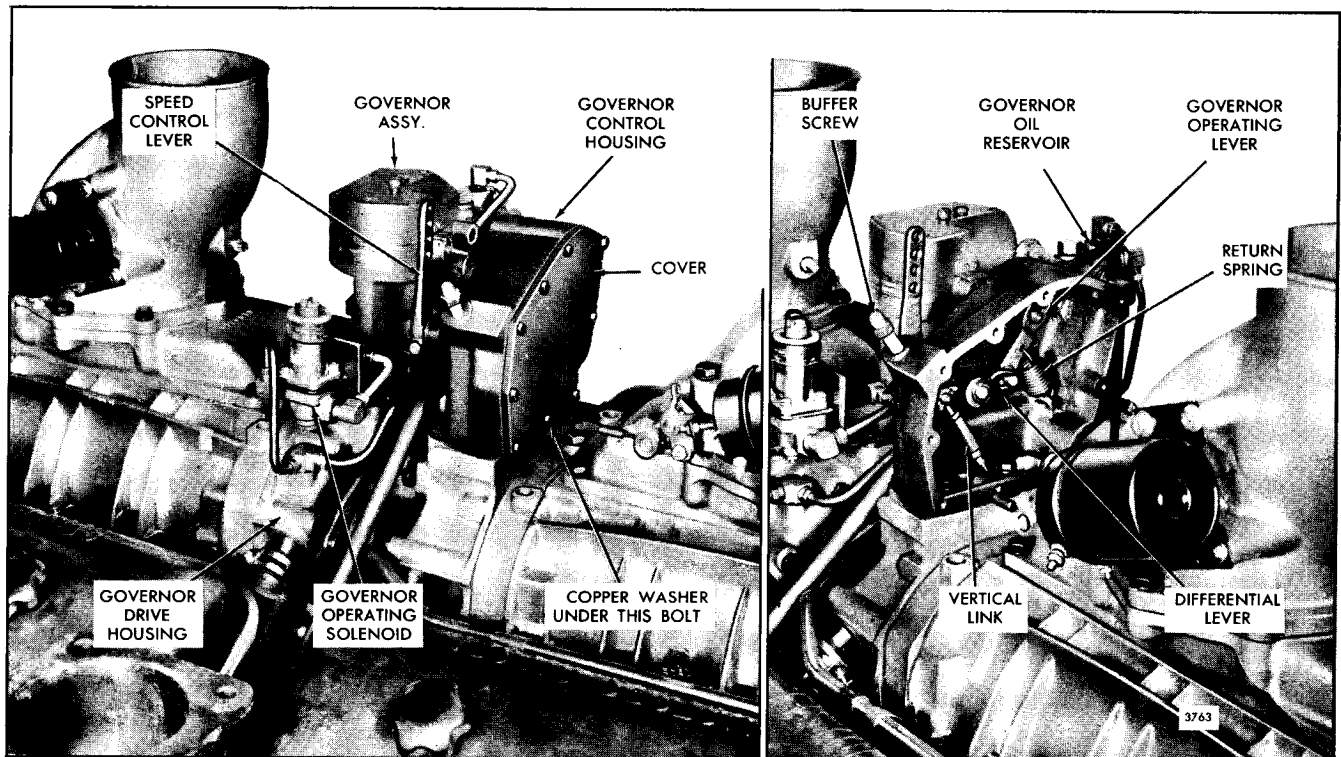
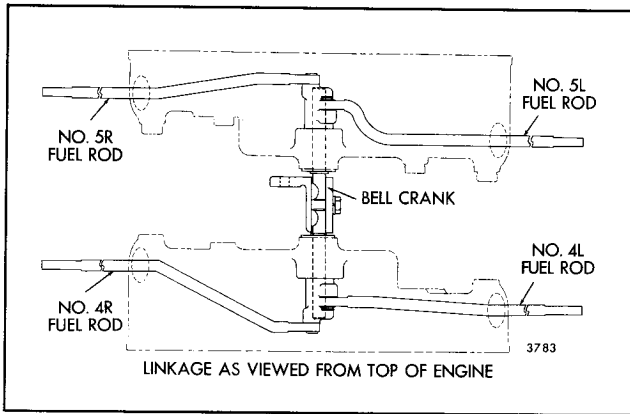

Fig. 1 - Governor Mounting and the Linkage in the Control Housing
Fig. 2 - Governor-to-Injector Rack Control Linkage
The governor on the 16V engine is mounted on and driven from the front end of the rear blower (Fig. 1). The governor to injector rack control linkage is shown in Fig. 2.
3. Disconnect the upper end of the adjustable vertical link (Fig. 1) from the differential lever pin.